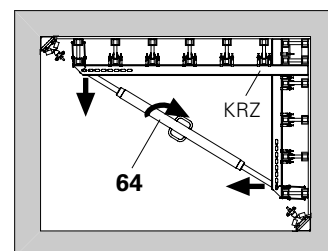

Fig. C3.04
3. Pull out wedge and remove EKZ corner coupling and internal element. (Fig. C3.04)
Install grippers or spindle, e.g. SLS (64), at every waler position on the internal element. The internal element can then be removed more easily from the concrete. (Fig. C3.04)